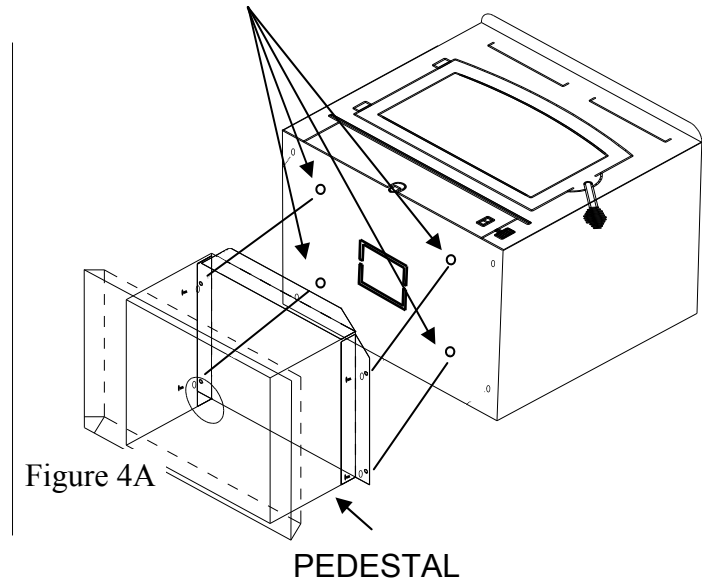

Figure 4A
6. **(Pedestal Kit):** If pedestal kit is being used and **(out side air is required for residential free standing installation (see page 25 Out Side Air Installation))**. Open freestanding kit and obtain stand. Place stand against bottom of heater (angle side to heater).Center stand front to rear and also center stand left and right. Mark screw locations on bottom of stove through outer holes of stand mounting angles. Set stand aside and drill four 7/32" holes in heater bottom. Then mount stand to bottom of heater with screws provided. (See Figure 4A).
7. Obtain four (4) 3/16" self-tapping screws and secure stand to heater.